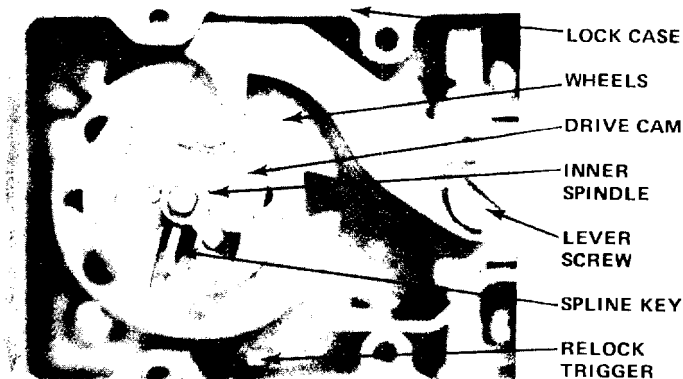

Fig. 3
6. Remove the inner spindle, pulling straight out (Fig. 3).